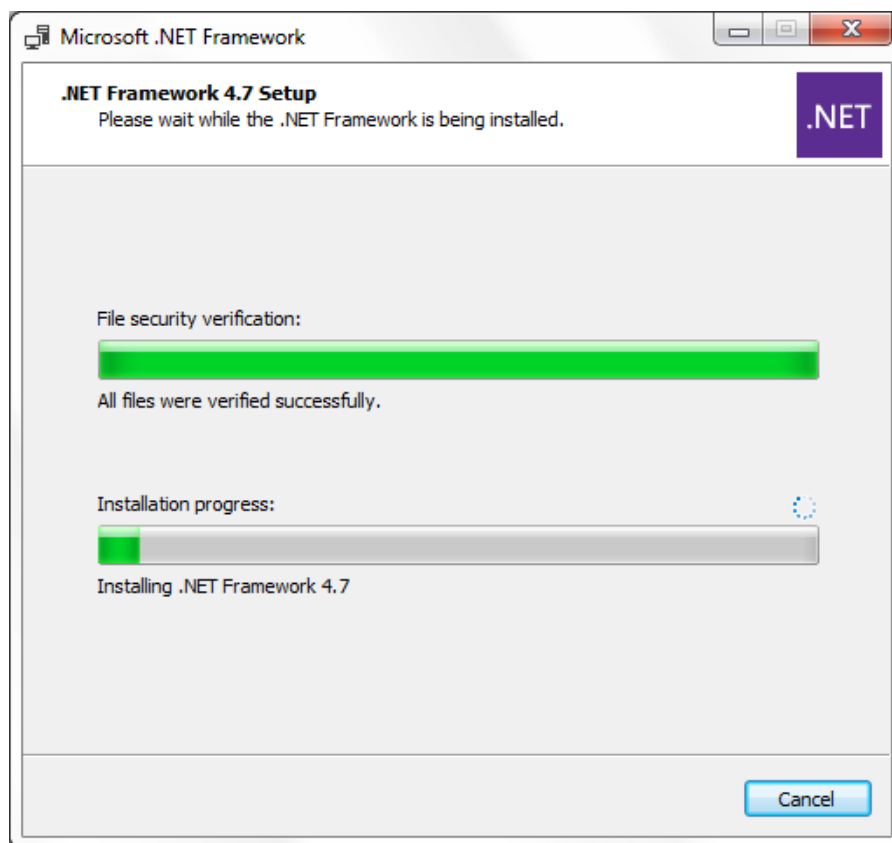

Figure III.1.24: Installation of Microsoft .NET 4.7.
- Installation is in progress. See Figure III.1.24.